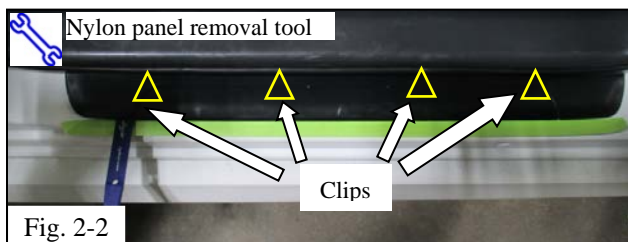

Fig. 2-2
- (b) Use a nylon panel removal tool to disengage the four clips and remove the front left and front right outer door scuff plates (Fig. 2-2).